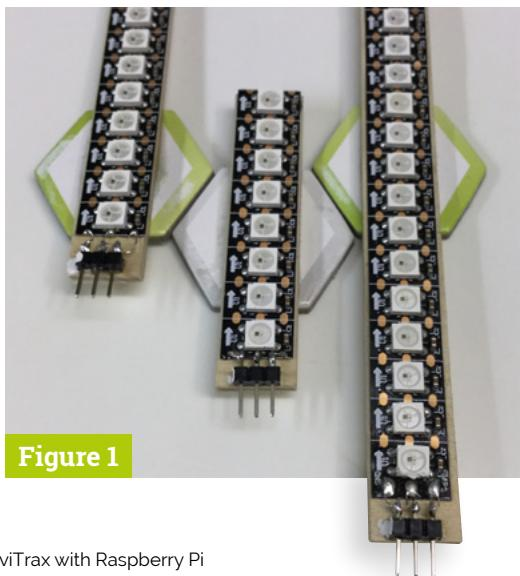

Figure 1
▶ Figure 1 Three lengths of LED strip
For the three lengths of track used in the starter pack, we made 8-, 14-, and 20-LED strips. We glued a three-pin connector on the end and wired it up to the strip. Then we glued a cardboard hexagon to the middle of the strip, so the strip went across the flats of the hexagon. For the 8- and 20-LED strips, the hexagon was glued in the middle of the strip. But for the 14-LED strip, we glued the hexagon 10 mm from one end because it only spans two hexagon positions – see **Figure 1**.